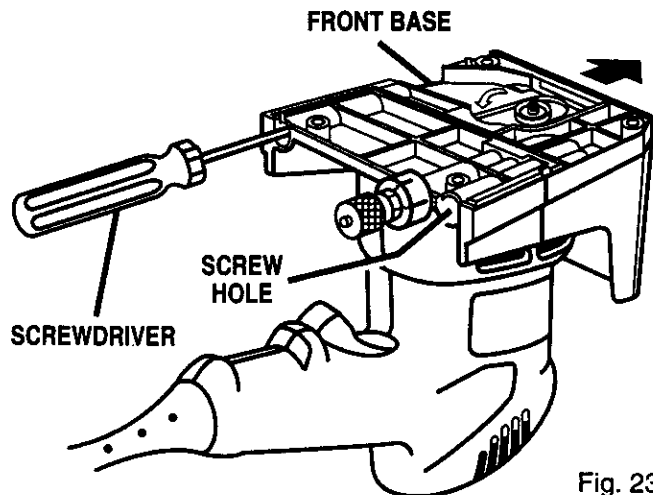

Fig. 23
- Figure 23.
- Pull front base in the direction shown by the arrow in Figure 23 and remove.